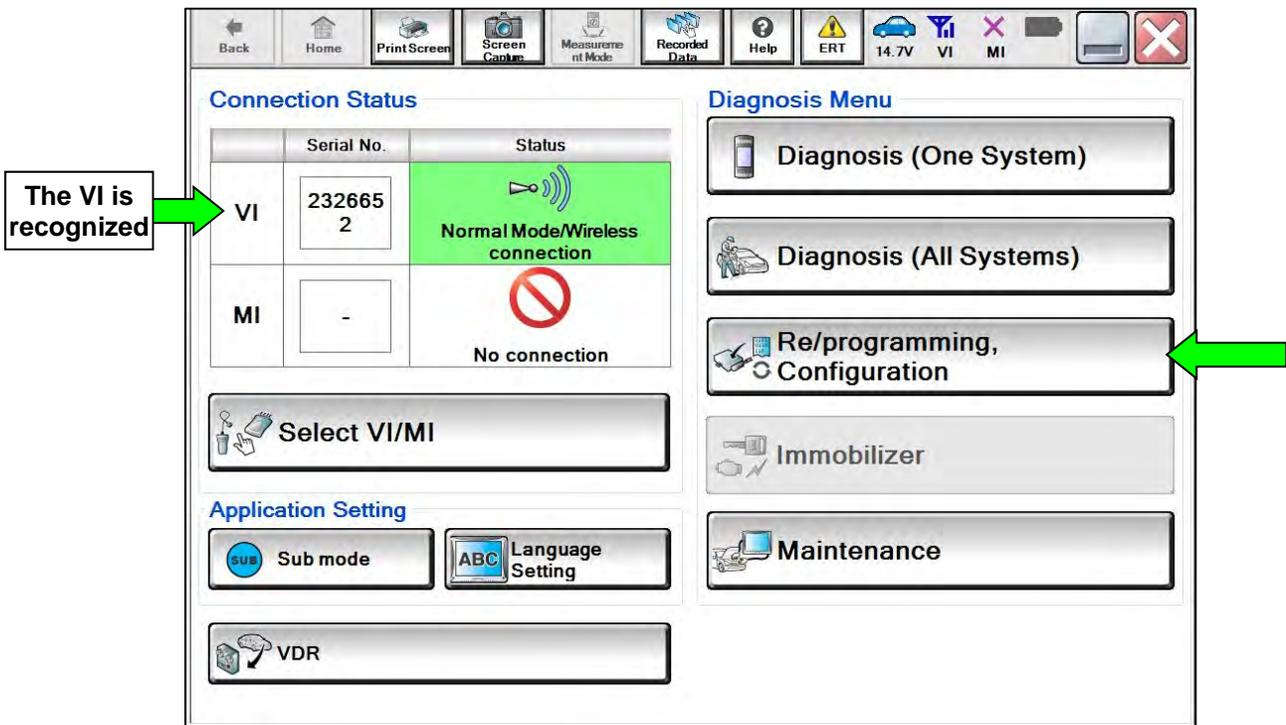

Figure 1
3. Wait for the VI to be recognized (Figure 1 on page 3).